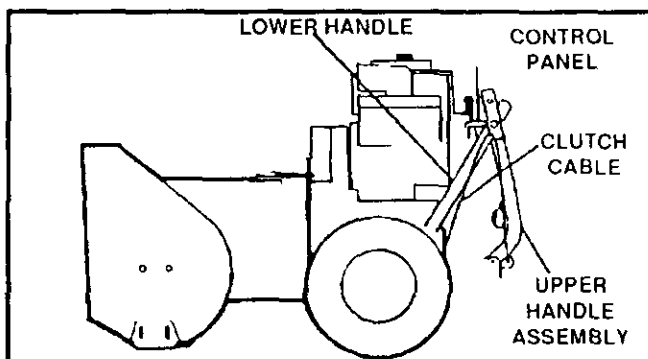
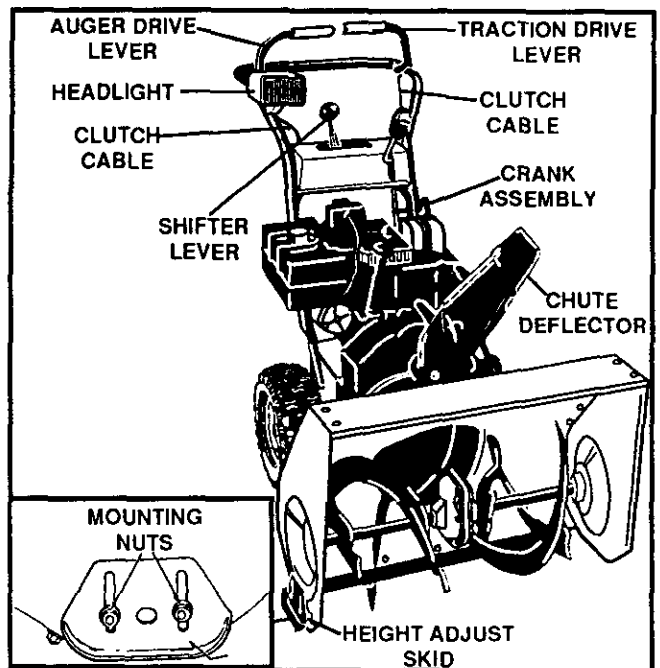

FIG. 1
FIG. 2
Figure 1 shows the snow thrower in the shipping position.
Figure 2 shows the snow thrower completely assembled.
TO REMOVE SNOW THROWER FROM CARTON (See FIG. 1)
- Swing upper handle up into operating position as shown in FIG. 2. Hold the inner nut and tighten the outside bolt up against the handle.
Your snow thrower is equipped with height adjust skids (See FIG. 2) on the outside of the auger housing. To adjust the skid height, see To Adjust Skid Height paragraph in the Service & Adjustments section of this manual. (See Figure 1 page 20).